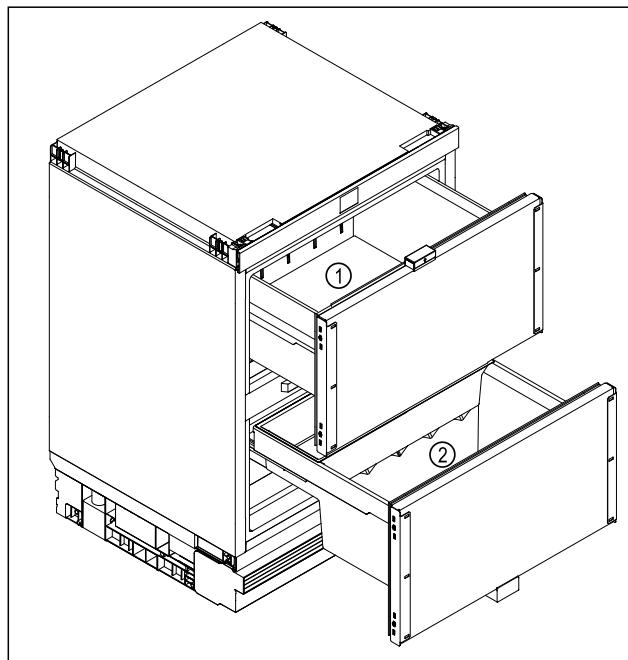

Fig. 7 Example illustration
- Upper telescopic unit Fig. 7 (1): Store cold-sensitive foods, butter, cheese, tinned food.
- Lower telescopic unit Fig. 7 (2): Store particularly perishable foods such as ready meals, fish, meat and sausage products fresh dairy products.